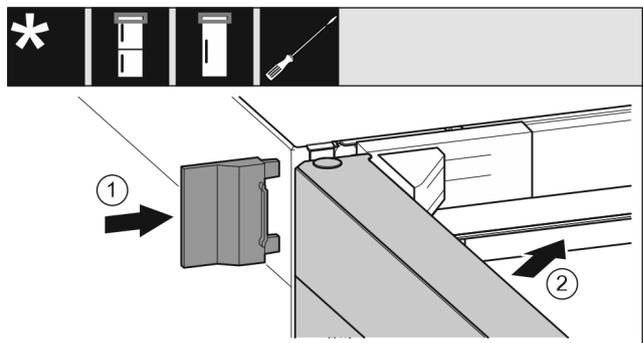

Fig. 35
- ▶ Push the outer cover on. Fig. 35 (1)